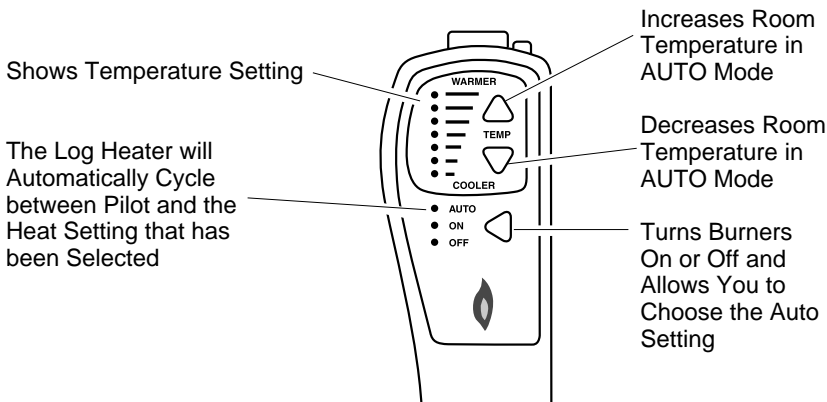

Figure 22 - Thermostat Hand-Held Remote Control Unit Selections (GHRCT Series Only)
- 2b. Press the AUTO/ON/OFF button on the hand-held remote control (see Figure 22, page 17). The lights to the left of the button will show AUTO, ON, or OFF.